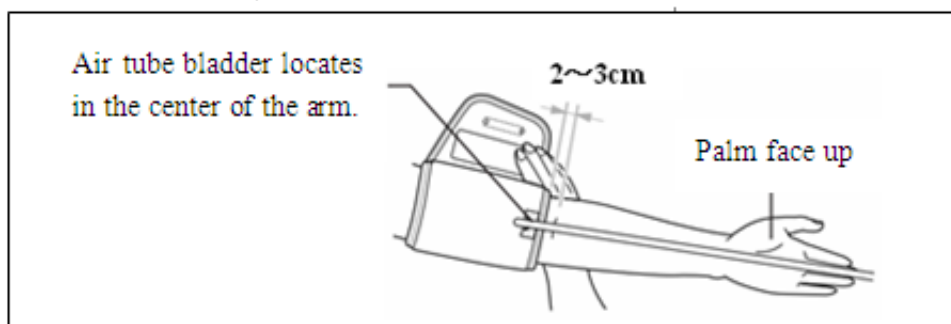

Fig 8
- 3) Tighten the cuff around the arm, make sure the cuff is approximately 2~3cm (1~2 inches) above the elbow. (Fig 8)